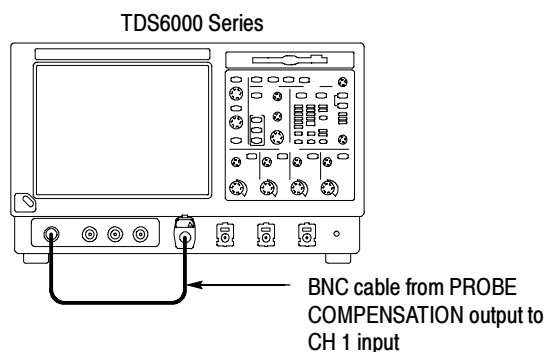

Figure 4-5: Setup for time base test
2. *Hook up the signal source:* Connect the BNC cable from the probe compensation output to the CH 1 input through a TCA-BNC adapter as shown in Figure 4-5.